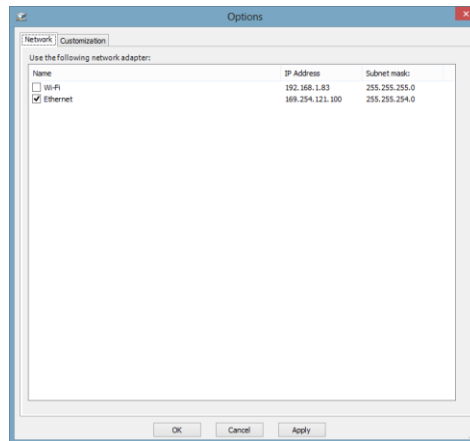

Fig 5.5.1
- 5.5 In the “Network” tab of “Option” page (as shown in Fig 5.5.1), select “Ethernet”. Then Click “Apply” and then click “Ok” to exit the page.